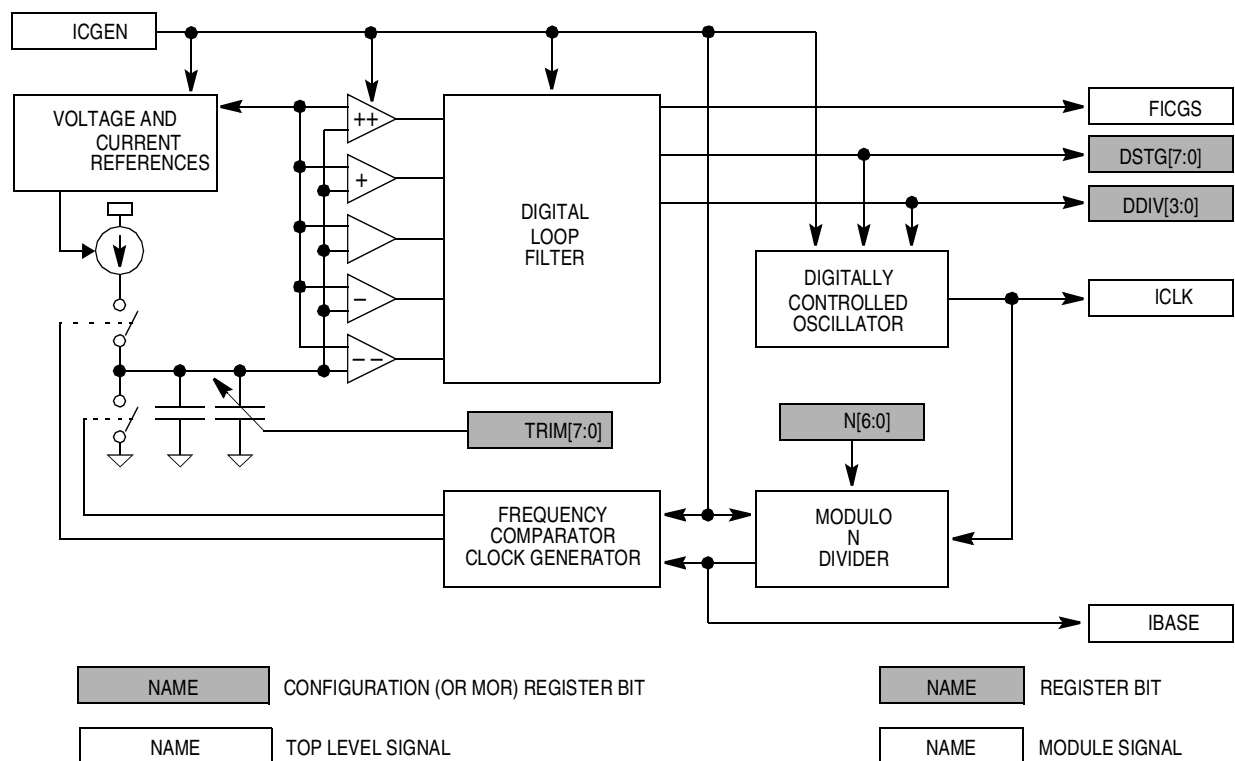

Figure 7-2. Internal Clock Generator Block Diagram
The internal clock generator, shown in **Figure 7-2**, creates a low frequency base clock (IBASE), which operates at a nominal frequency (f_{NOM}) of 307.2 kHz \pm 25 percent, and an internal clock (ICLK) which is an integer multiple of IBASE. This multiple is the ICG multiplier factor (N), which is programmed in the ICG multiplier register (ICGMR). The internal clock generator is turned off and the output clocks (IBASE and ICLK) are held low when the internal clock generator enable signal (ICGEN) is clear.